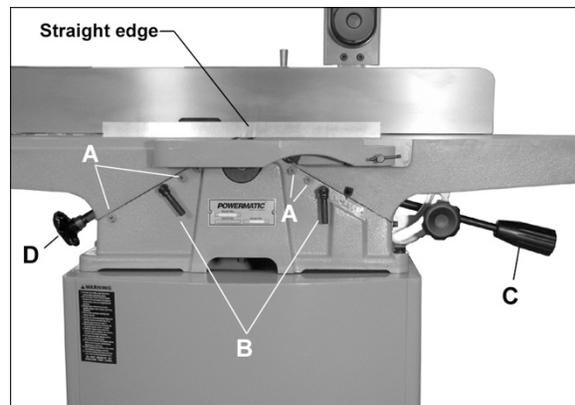

Figure 20
Refer to Figure 20.
Remove gib screws (A, Figure 20) and table locking handle (B) and remove gib. Check gib to see that set screws do not go all the way through the gib or dimple the opposite side. If either of these conditions exist, replace with a new gib.